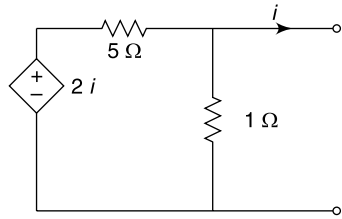

Fig. 15.3
21. Norton's current in the circuit (Fig. 15.3) is given by